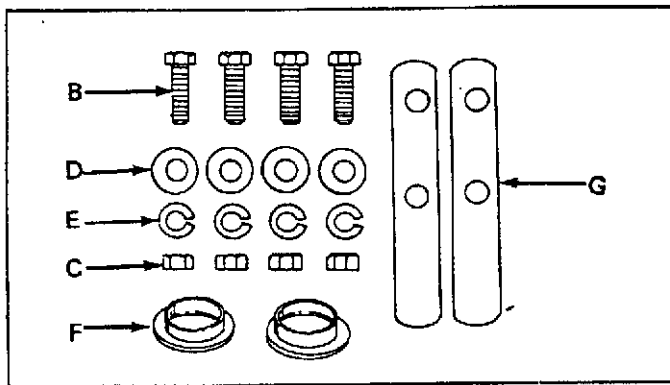

FIGURE 1 — HARDWARE PACKAGE
Your bumper carton contains parts listed below. The hardware package contains parts shown in figure 1. Identify all parts and layout as shown in figure 1.
2. Hardware Package (See figure 1)